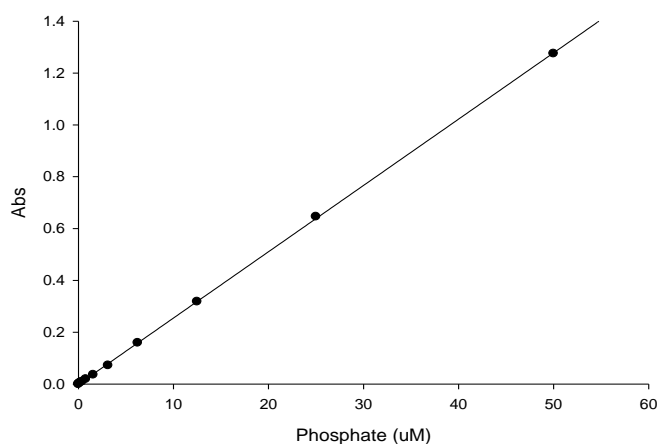

Figure 1. The linear range of MG phosphate assay
The SensoLyte® MG Phosphate Assay Kit is based on the quantification of the blue-green complex formed between malachite green (MG), molybdate and free phosphate. The rapid color formation from the reaction can be conveniently measured on a spectrophotometer (600nm-660 nm) or on an absorbance plate reader (Figure 1). The assay involves a single reagent addition step for phosphate determination and takes only 10 minutes for color development. There is no precipitate formation, so extract filtration step is not necessary. The assay can be conveniently performed in a 96-well format for screening of phosphatase activators or inhibitors with a Z' factor of 0.7 to 0.9. It can also be performed in tubes and cuvettes by proportionally scaling up the amount of assay reagents. The assay has been widely used to quantify the liberated phosphate in phosphatase assays, lipase assays, and nucleotide triphosphatase assays.
4.2 Plot the phosphate standard as Abs (absorbance unit) versus concentration (Figure 1).